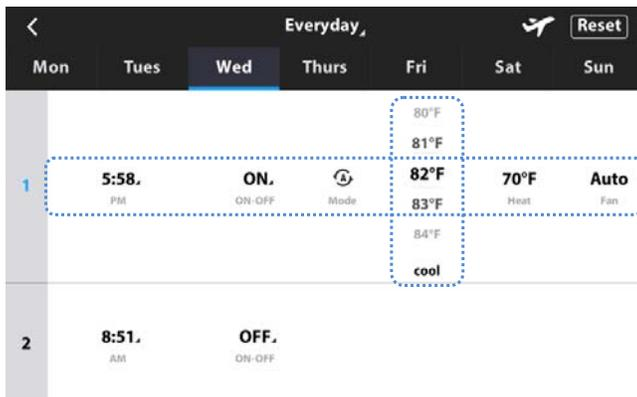
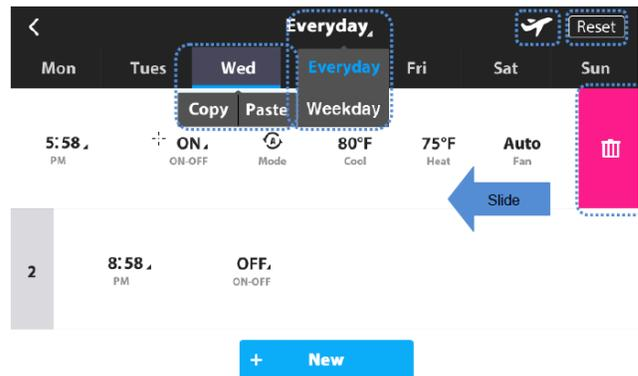

Fig. 20 — Schedule
Fig. 21 — Setting Schedule
1. Touch the  icon from the Setting Schedule screen (Figure 20) to access Holiday settings. Touch **+ New** to create a new Holiday. Touch Edit to adjust the existing or new Holiday. Figure 21 will be displayed.
2. Touch “By Date” or “By Day” to change how the Date is displayed. See Figures 21 and 22.